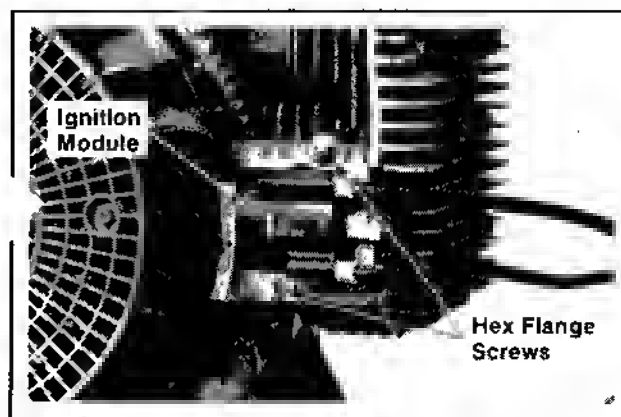

Figure 9-15. Removing Ignition Module.
1. Remove the hex. flange screws and ignition module. Refer to Figure 9-15.